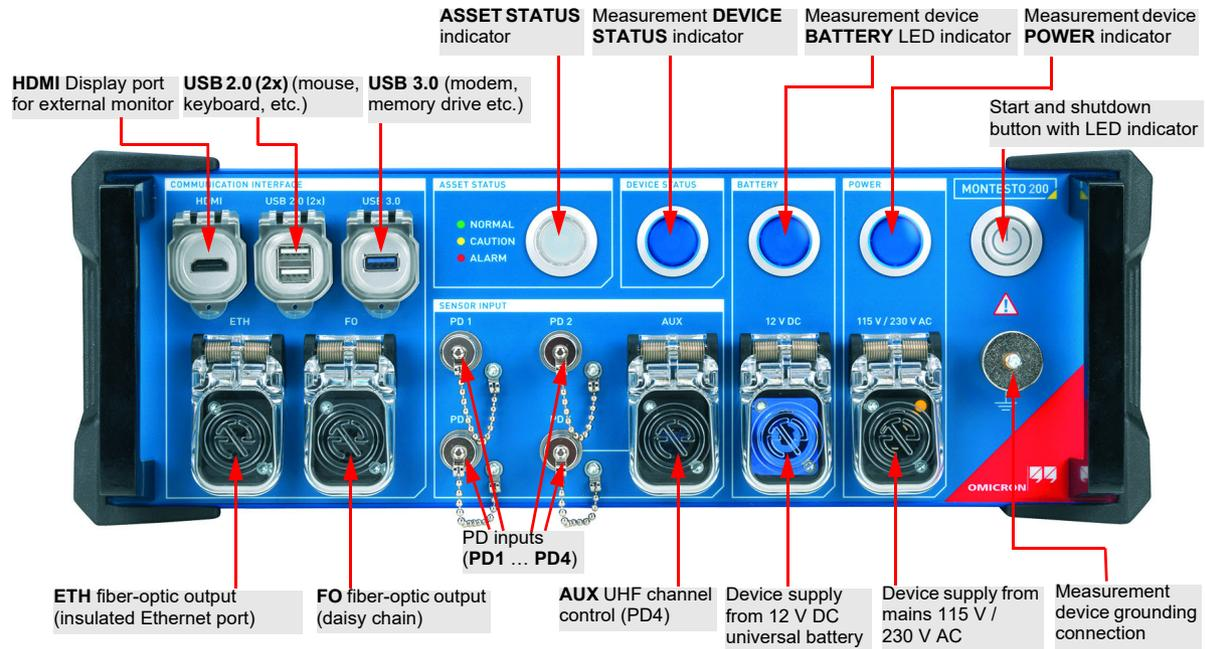

Figure 2-2: MONTESTO 200 front panel
- ▶ Make sure to ground *MONTESTO 200* at the "measurement device grounding connection" before connecting the sensors, see Figure 2-2: on page 10.